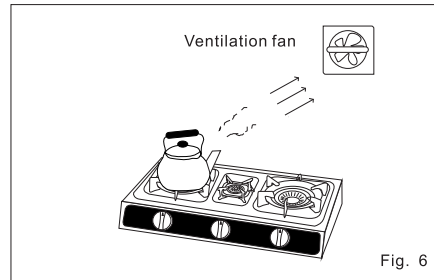

Fig. 6
- Make sure the room is well-ventilated. Never use the gas cooker for long periods of time (over 10minutes) in a small room or in a closed-off space without the ventilation, by the ventilation fan or opening the windows.(Fig. 6)